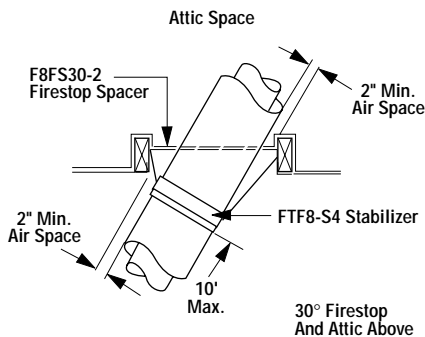
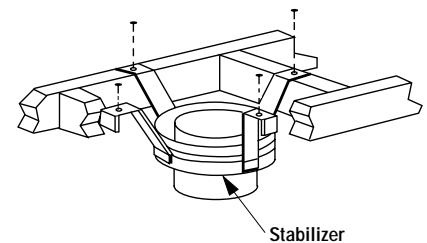

Figure 21
Figure 26
It may be necessary to assemble the chimney at 30° when passing through the floor or ceiling area. Use the F8FS30-2 firestop spacer as shown in *Figures 21 and 22*. Support the chimney at floor or ceiling penetration with a FTF8 stabilizer if distance of chimney below ceiling is 10' or more. Maintain 2" minimum air space to combustibles from chimney sections.
Install Model F8-S4 or F10-S4 stabilizer by fitting inner section down into respective section of proceeding flue pipe and locking outer stabilizer section into place over the outer chimney pipe. Position for proper clearance through framed opening and nail straps securely (under tension in "shear") into place on framing. Use 8d nails or equivalent. Attach successive lengths of chimney pipe directly to stabilizer using same techniques as described in Step 4 (*Figure 26*).
Step 1. Use Offset Chart to determine amount of horizontal offset (A) and height (B) for various chimney section assemblies.
Step 3. Use Elevation Chart as job estimator only. Add necessary firestop spacers and stabilizers as required. Firestop spacers must be used as shown in Figures 21 and 22 and stabilizers as shown in Figure 26.